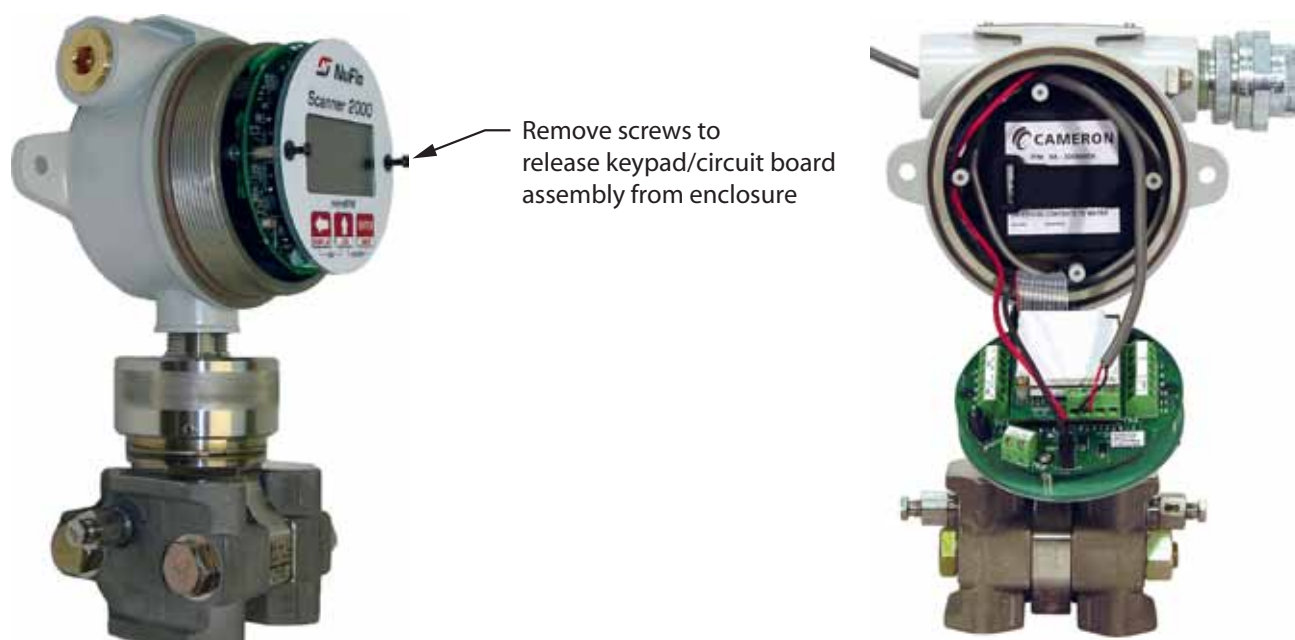

Figure 6.1—Removal of the battery pack from the enclosure
2. Using a small standard blade screwdriver, remove the two #4-40 \times 7/8" screws located to the right and left side of the display (Figure 6.1).
5. Loosen the Velcro strap, disconnect the battery from the J1 connector on the main board, and remove the spent battery pack from the enclosure (Figure 6.1).
2. Using a small standard blade screwdriver, remove the two #4-40 × 7/8" screws located to the right and left side of the display (Figure 6.1, page 72).